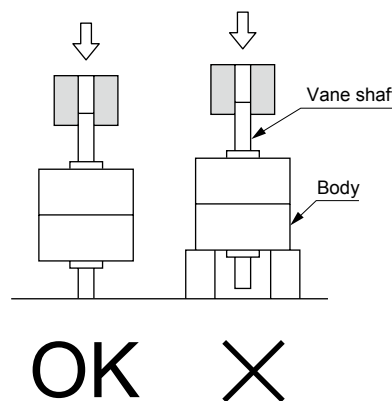

Fig. 3
- When installing a load or jig, etc., on the rotary actuator vane shaft, check that load is not applied to the body as shown in Fig. 3.